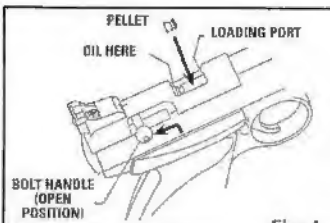

Fig. 4
- Cock and open the bolt by pushing the bolt handle up and pull all the way back until you hear two clicks (Fig. 4).
- With the bolt in the rearward position, place one pellet, nose first, into the loading port (breech) (Fig. 4). This is a single shot pellet airgun. Load no more than one pellet at a time.
- Open the bolt (See Step 4A - Fig. 4).